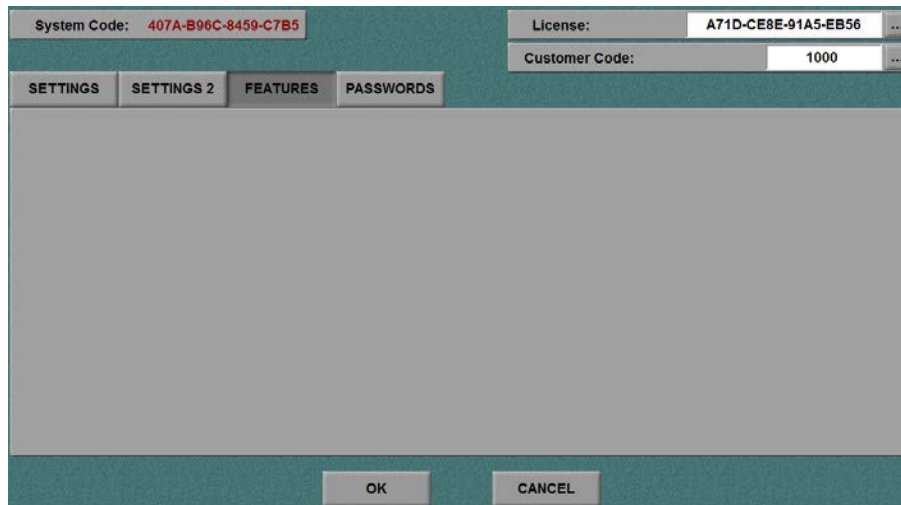

Figure 3-35: Touchscreen Setup Window, Features Tab
1. From the touchscreen setup window, select **FEATURES**. Available digital interfaces will be shown on this screen. Refer to Figure 3-35.